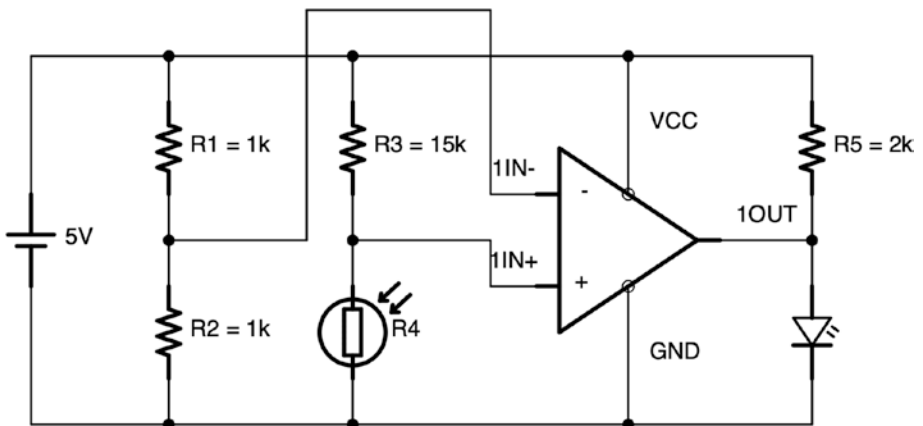
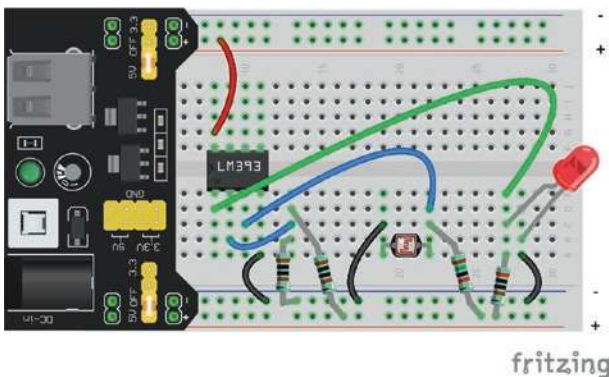

Figure 11-7. *Darkness Sensor Schematic*
Figure 11-8. Darkness Sensor Breadboard Layout
The final circuit is given in Figure 11-7. You can see a way to lay it out on the breadboard in Figure 11-8.
4. Build the circuit in Figures 11-7 and 11-8.